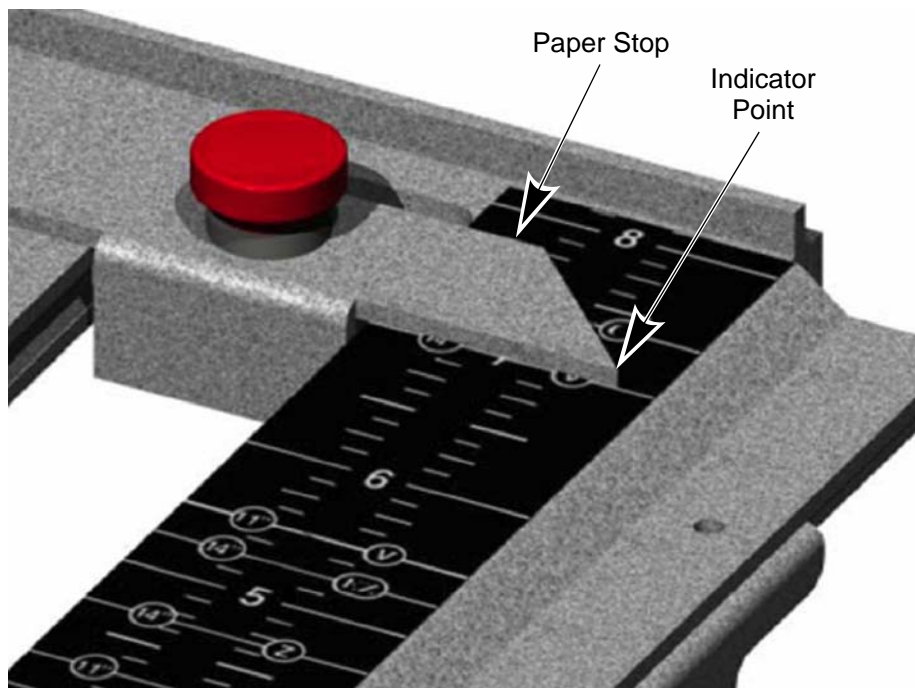

Figure 9: Paper Stop Alignment
To set the width of the **Feed Table Paper Guides** [see Figure 9]:
3. Line up the tips on both sides of the paper stop with the appropriate line on the scale so that the appropriate white line on the scale is just visible [see Figure 9].